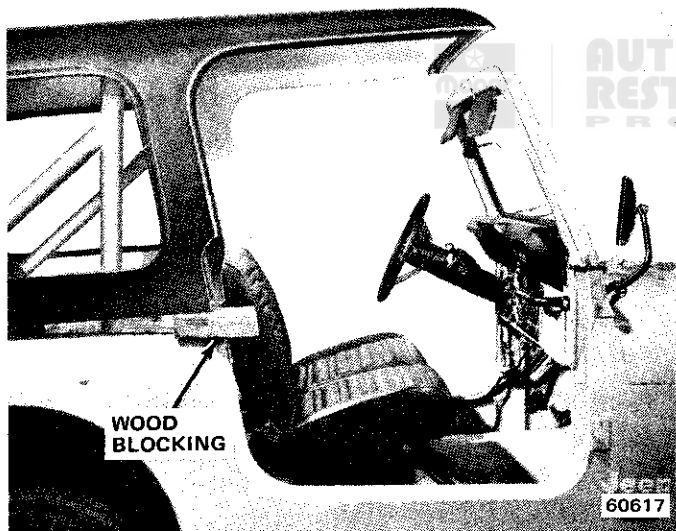

Fig. 3C-2 Hardtop Enclosure Supported with Wood Blocking
- (1) Disconnect battery negative cable.
- (2) Remove screws attaching steering column bezel to instrument panel. Remove bezel.
- (3) Disconnect emergency brake bracket from instrument panel.
- (4) Disconnect speedometer cable.
- (5) Disconnect heater control cables from damper door levers.
- (6) Remove windshield clamp knobs and brackets.
- (7) Remove crash pad, if equipped.
- (b) If equipped with a hardtop enclosure, remove hardware attaching enclosure to windshield and rear quarter panels and support enclosure with wood blocking (fig. 3C-2).